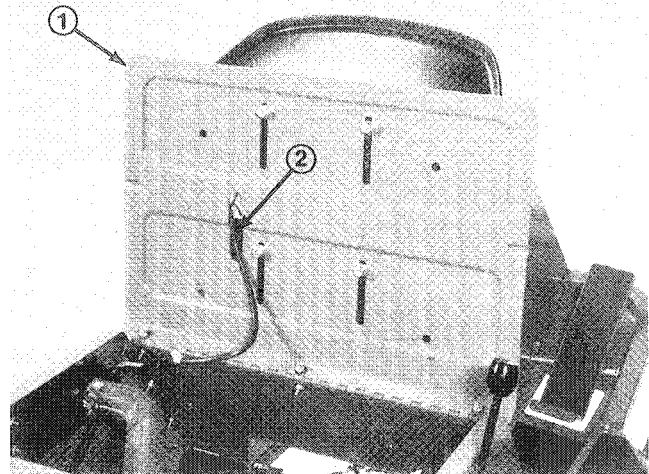

Figure 2
2. Position seat onto seat plate aligning mounting holes and routing seat switch wire thru slot (Fig. 2).
3. Loosely secure seat to seat plate with (4) capscrews, flatwashers and lockwashers.
4. Adjust seat to desired position, tighten capscrews and plug seat switch connector into wire harness (Fig. 2). Make sure wire harness is clear of lift arm and all moving parts.